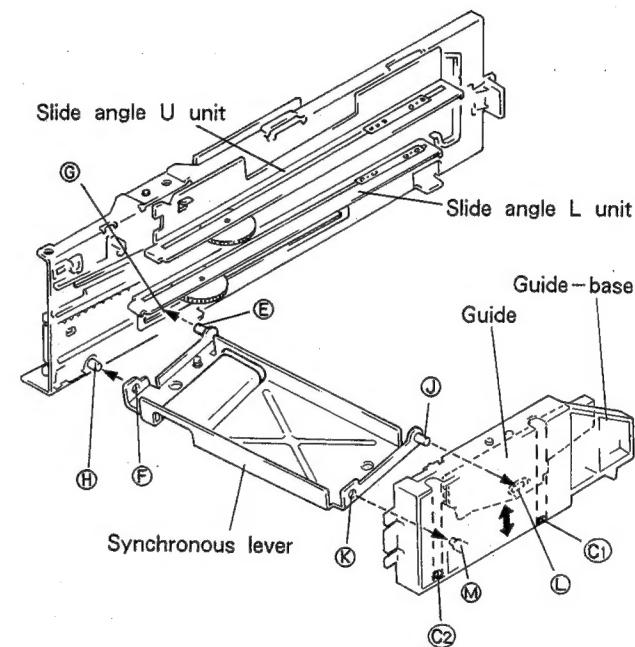

Fig. 3-6
1. Refer to Fig. 3-6 and remove 2 screws (C1) - (C2) and slide guide-base toward main board assembly.
3. Attach sections (E) and (F) of synchronous lever to sections (G) and (H) respectively.
4. Attach sections (J) and (K) of synchronous lever to section (L) of the guide and section (M) of guide-base respectively.